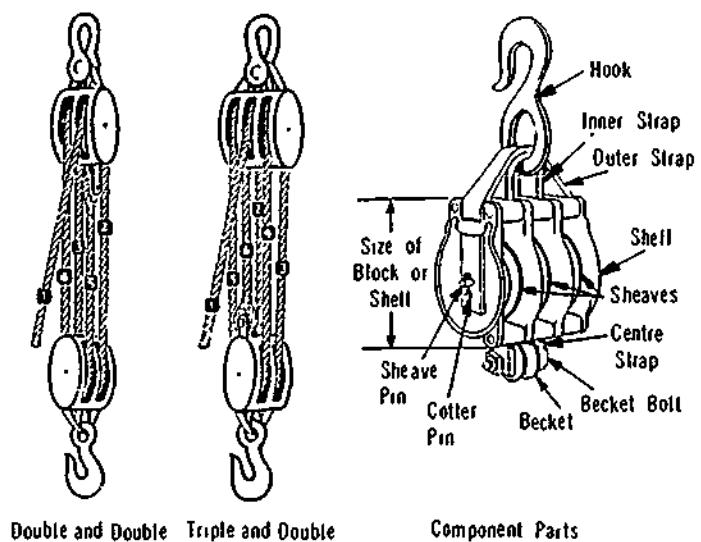

Figure 2-26. Two Types of Rope Blocks and Their Components
- e) Examples of rope blocks are shown in Figure 2-26.